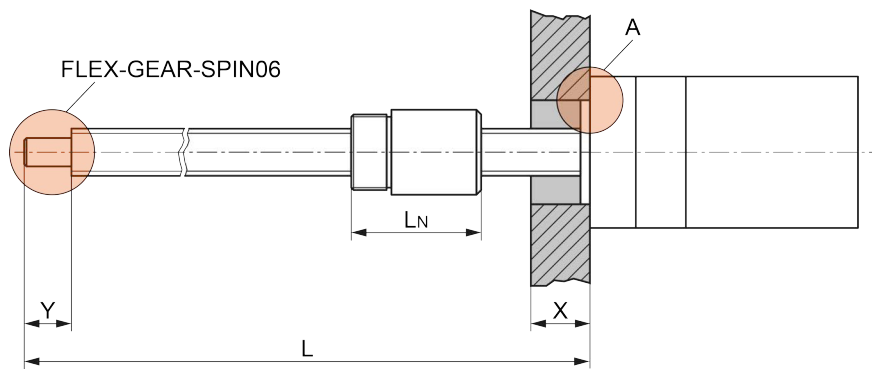

Figure 1 Option FLEX-GEAR-SPIN06 / Stroke / Centering
- If possible, use the flange's front face centering collar for alignment (Figure 1; detail "A").
- Special length spindles and/or high speed operation require an additional bearing at the free spindle end (Figure 1; option "FLEX-GEAR-SPIN06").
- Depending on the installation setup, you will need to subtract certain axial dimensions from the total length of the spindle (Figure 1). The maximal permitted stroke calculates as follows: